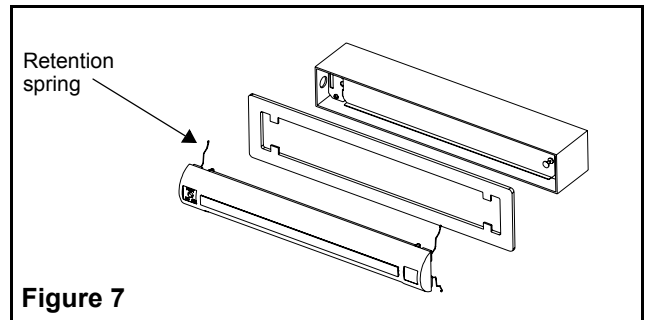

Figure 7
5. Compress the retention springs and insert the trim plate assembly in the back box. Push the assembly in place (see fig. 7).